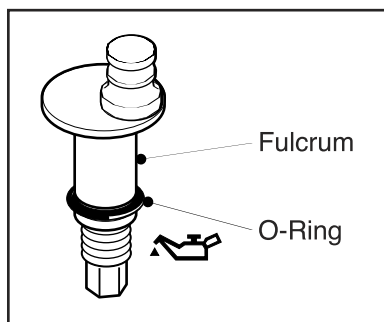

Fig. 13, Fulcrum
2. Install a new O-ring onto the Fulcrum (If applicable for your model). (Fig. 13)